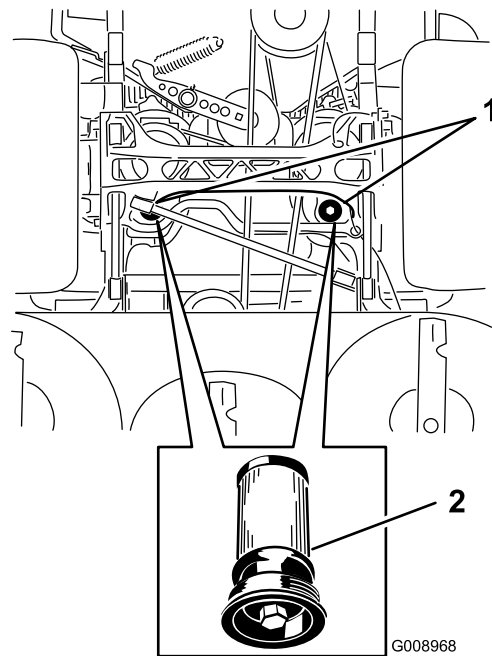

Figure 90
5. Place a drain pan under the filter, remove the old filter, and wipe the surface clean (Figure 90).
6. Apply a thin coat of hydraulic fluid to the rubber gasket on the replacement filter (Figure 90).